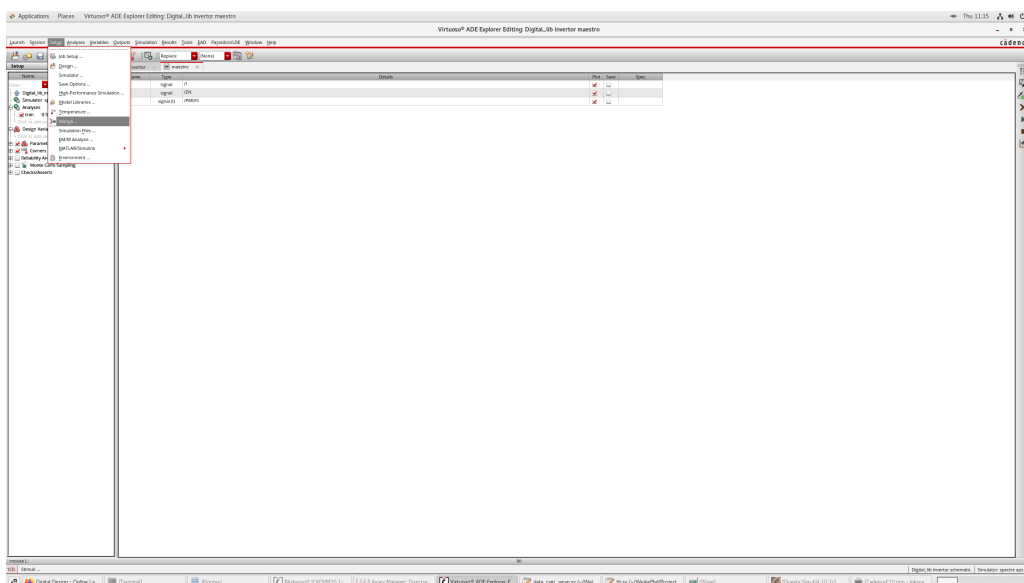

Figure 11: Adding stimuli
8. Then we need to **give stimuli to the circuit**. To do that, click on the "setup/stimuli" (Figure 11). A window for stimuli assignment will show up. First, we add constant source for the power pins. Specify the stimuli type to be dc. Enter some name for the VDD and VSS stimuli. Set 1 on dc voltage for VDD, and 0 on dc voltage for VSS. When finished, click on apply to add the stimuli in reservation. Note that for each different stimuli, a different name needs to be specified. The name can be change right next to the type selection drop down. Then specify the stimuli type to be pulse and create a square wave for the input. Use 0 for voltage 1 and and 1 for voltage 2. Enter the waveform as you